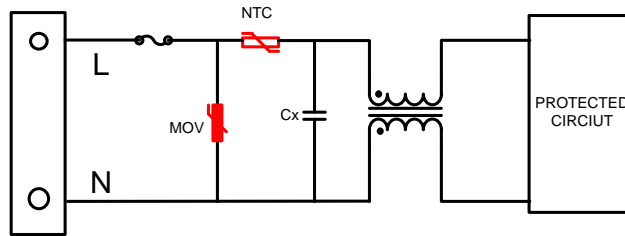

Figure 5
(1) Add an MOV between L and N for the differential mode protection. This scheme is suitable for low power supplies. See Figure 5.